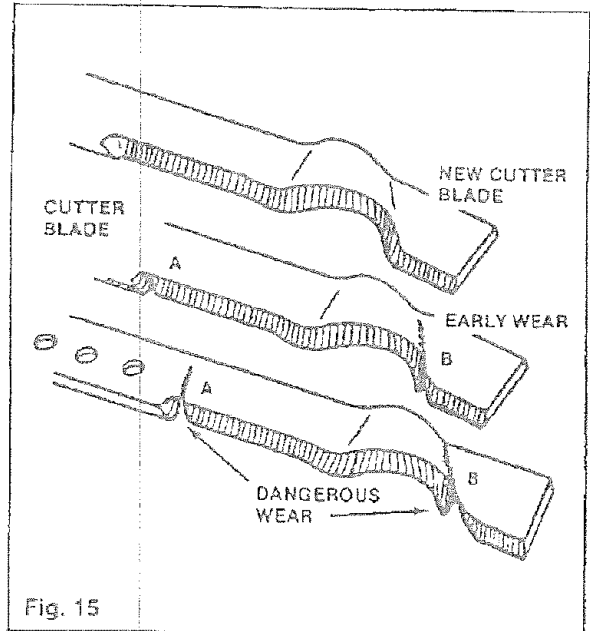

Fig. 15
- The cutting ends of the blade should be inspected for cracks developing at points marked "A" and "B" in Figure 15. These are developing points, either from unsharpened to sharpened edges, or from rounded to flat areas of the blade. Abrasive particles cause cracks by wearing the steel during mowing. At the first sign of a crack, the cutter blade should be replaced.